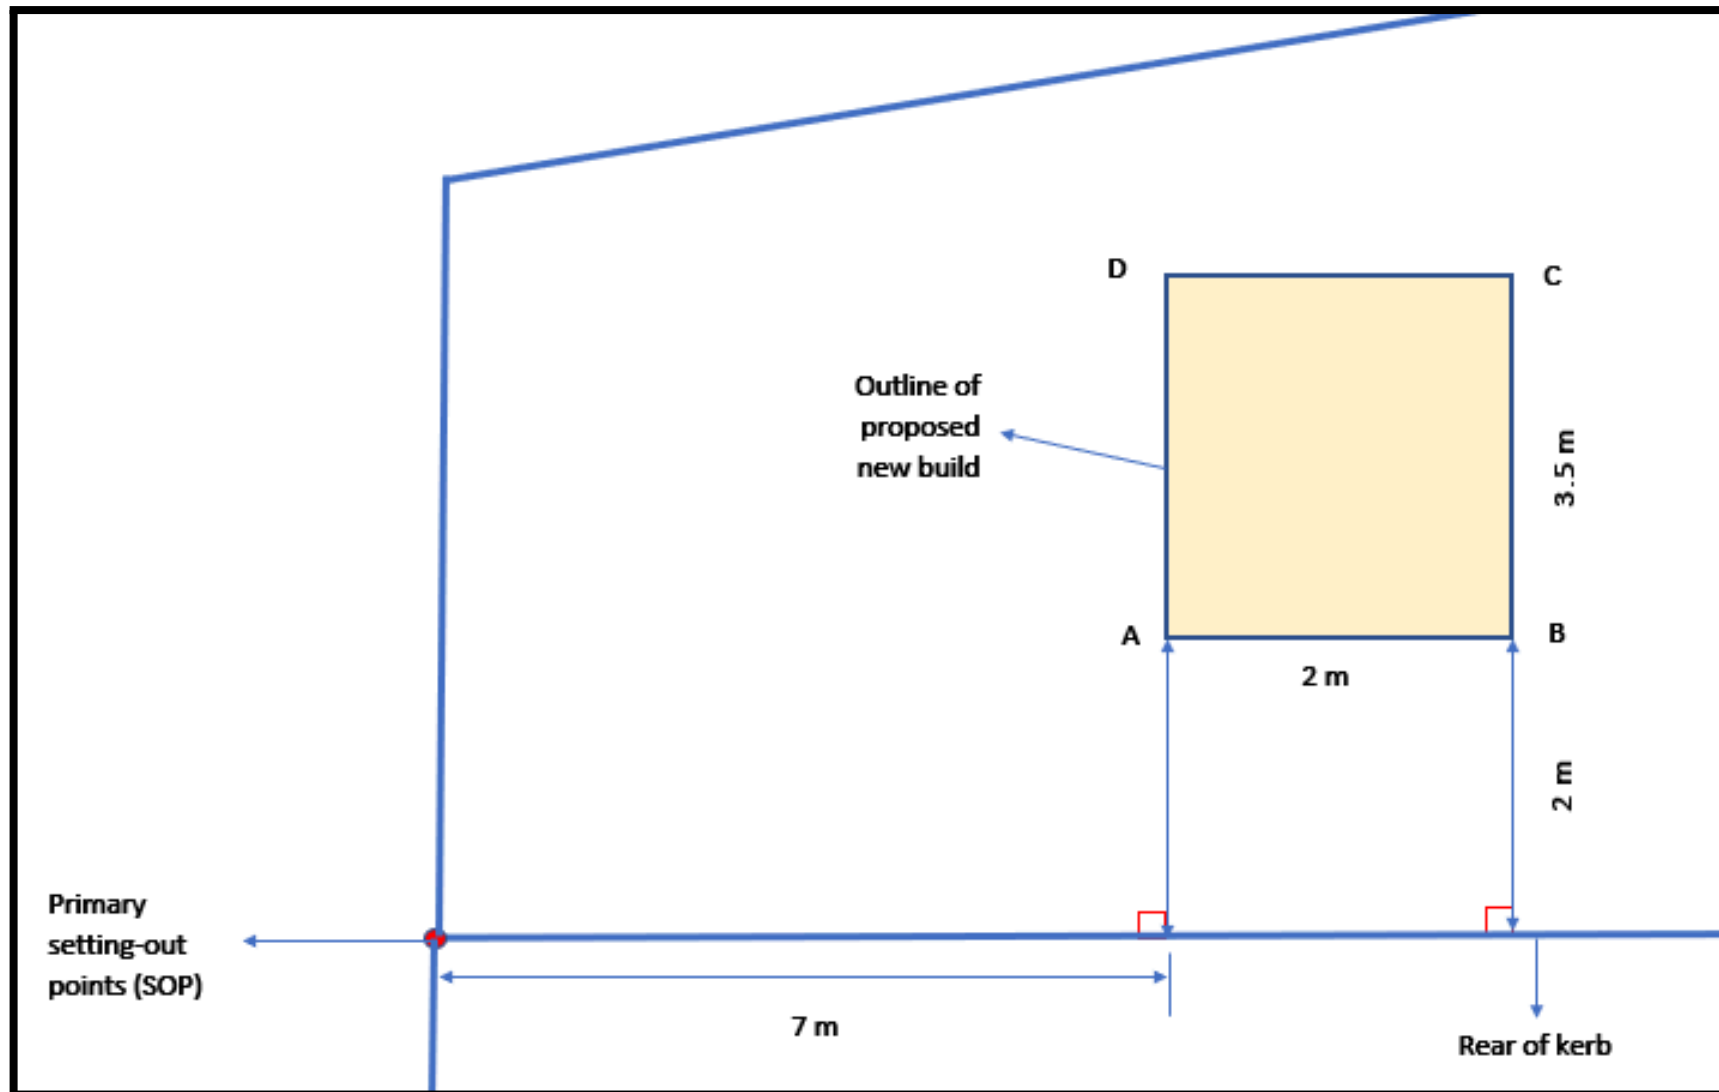

Figure 2. Site plan – Group A
- a. Make a copy of the plan (figures 2 & 3) clearly showing all the dimensions you intend to use to set out the corners of the building.